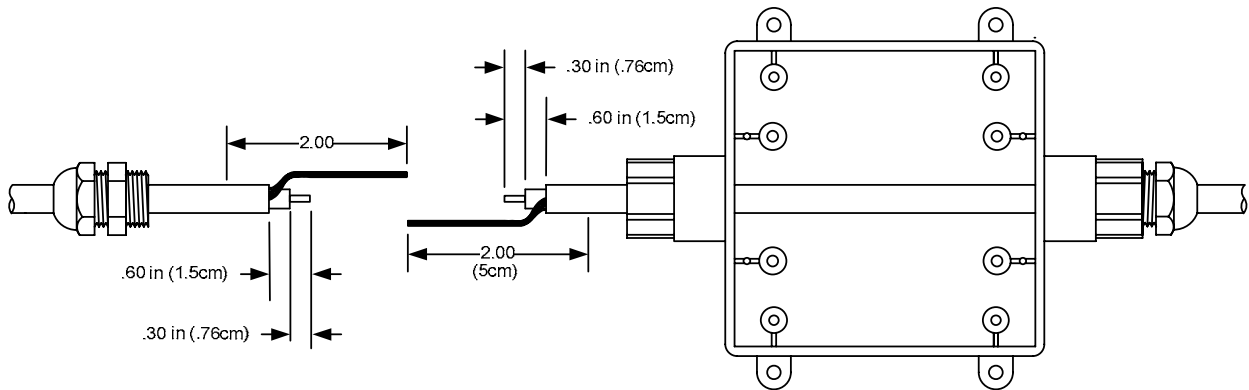

Figure 6.21 – Cable Stripping Dimensions for MTI
- Step 3:** Strip the cables to the dimensions as shown in Figure 6.21. Clean the braid thoroughly using Goo Gone, WD40, Xylene, Kerosene, or Mineral Spirits to remove the flooding compound.